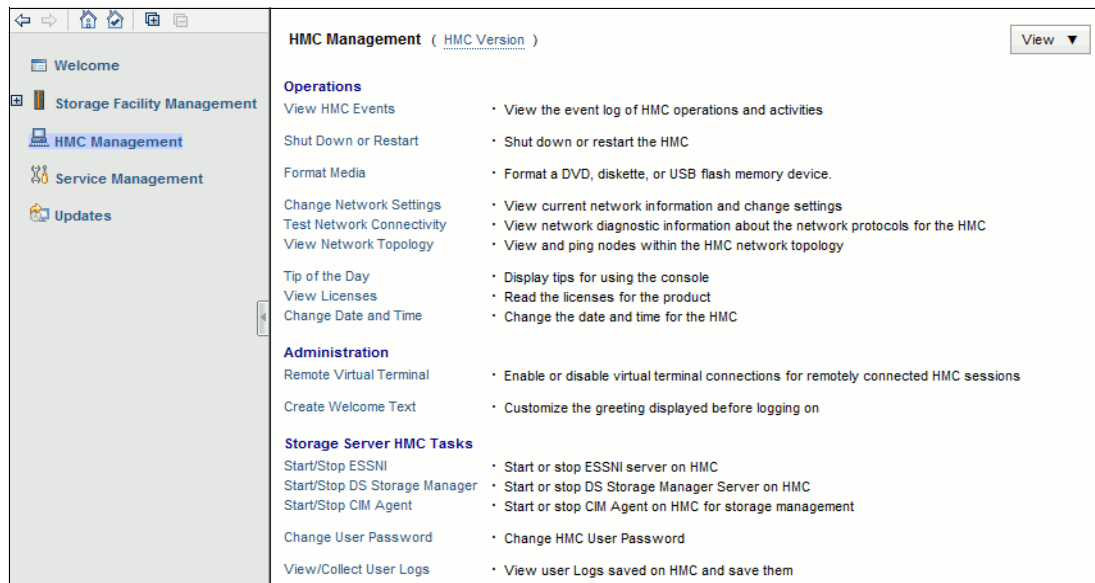

Figure 12-6 HMC WUI: Start/Stop CIM Agent
3. Select **HMC Management** and under the Storage Server HMC Tasks section, click **Start/Stop CIM Agent** (Figure 12-6 on page 289).